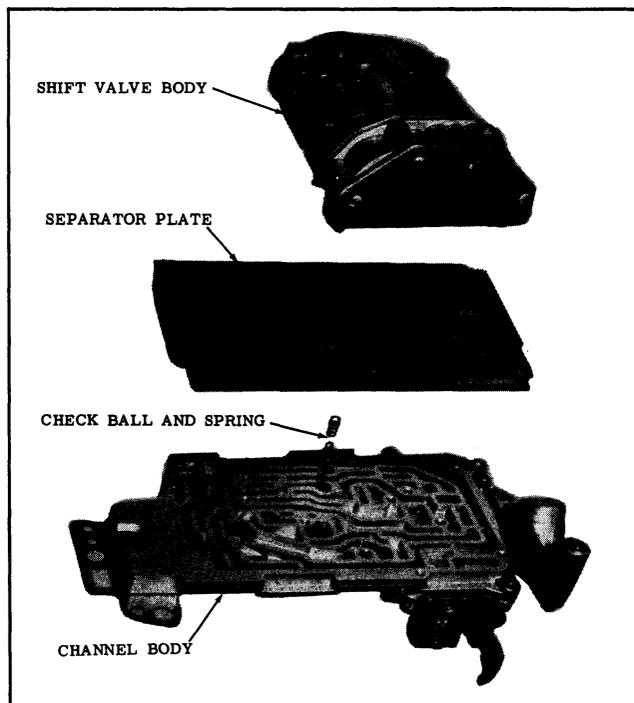

Fig. 3-118 Shift Valve Body Removal
1. Remove the 4 shift valve body attaching screws, then remove the shift valve body from the channel body. (See Fig. 3-118)